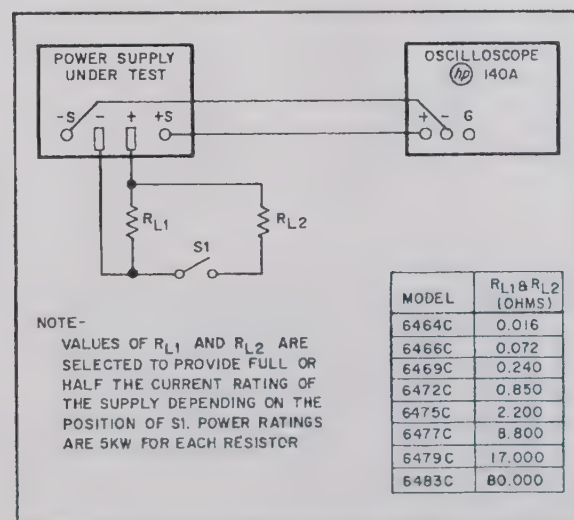

Figure 5-4. Transient Recovery Time Test Setup
a. Connect test setup shown in Figure 5-4.